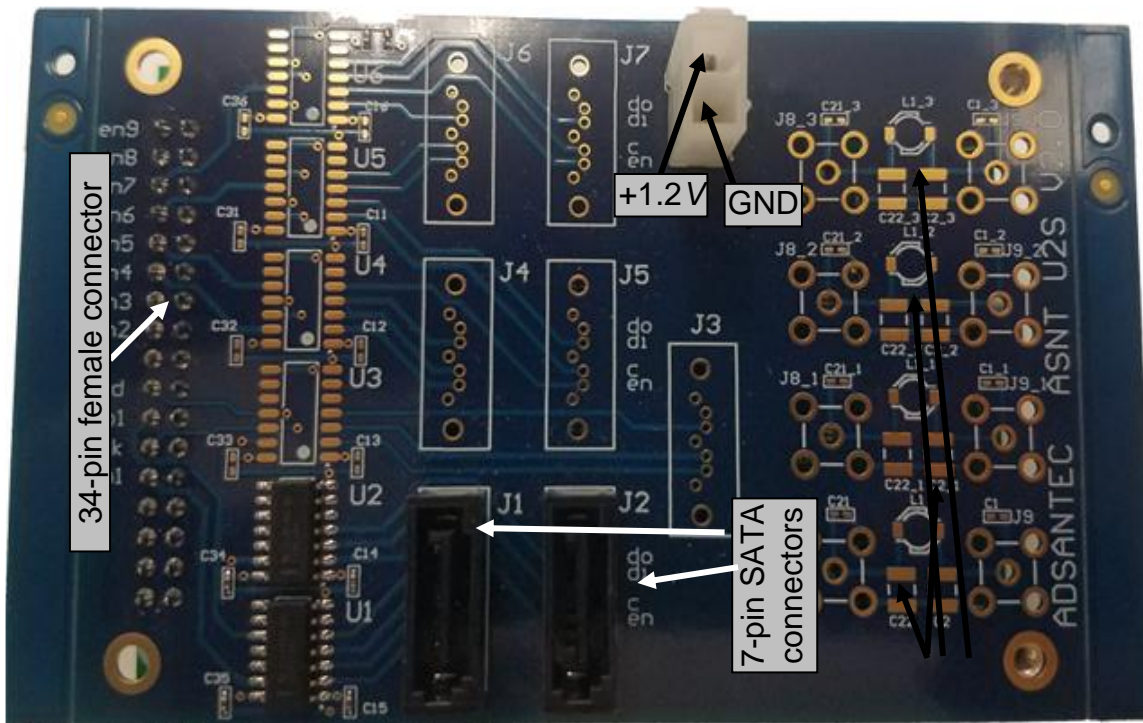

Fig. 2. ASNTu2s v2.0
1. The ASNTu2s v2.0 PCB shown in Fig. 2 is a 2-channel converter for the SPI interface. It includes a MOLEX connector (J0) for a 1.2V power supply, a 34-pin female connector, and two 7-pin SATA connectors (J1-J2). The board measures approximately 3.2x2.4 inches.
5. Connect the supply unit's output pins to the PCB's Molex connector as shown in Fig. 2.